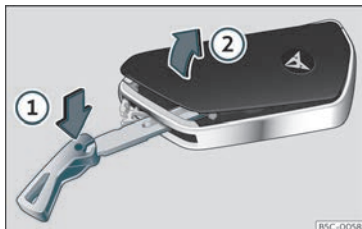

Fig. 76 Vehicle key: opening the battery compartment cover.
- Insert the key blade into the slot >>> Fig. 76, press it in the direction of arrow ① and detach the cover by levering it ②.